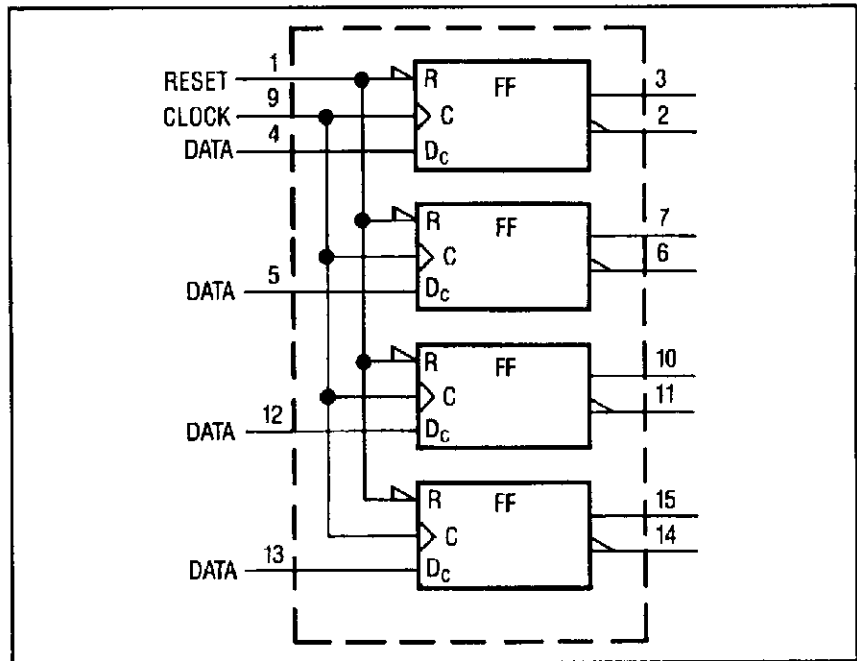

Figure 8-13. Quad D-Type Latch (Individual)
**Quad D-Type Latch.** The register control block illustrates a quad D-type latch (see figure 8-13). There is a common active-low reset (R), and a common edge-triggered control input (C). Since there is only one dependency relationship, the controlling input is not numbered and the controlled functions (D) are subscripted with a "C".